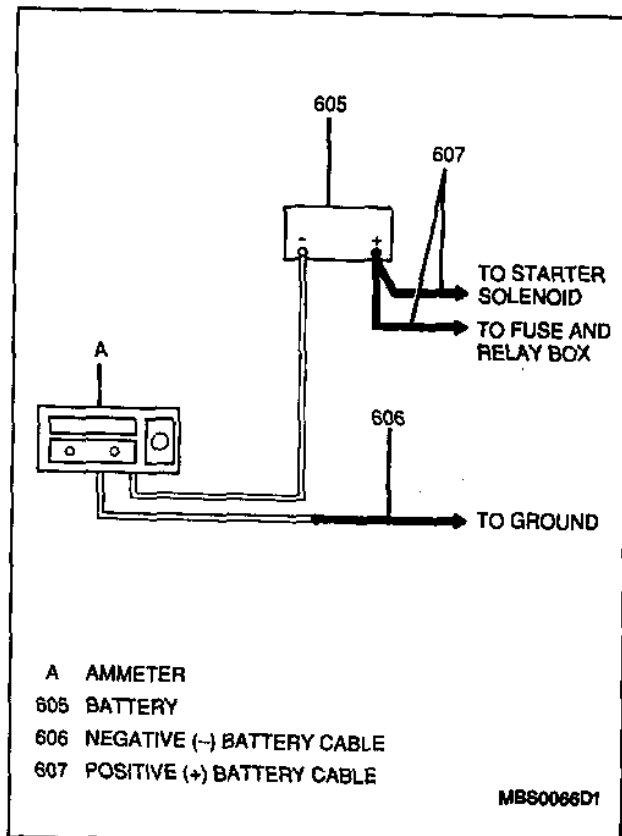

Figure 6—Parasitic Load Test with Ammeter
Figures 6 and 7
4. Connect an ammeter capable of carrying at least 20 amperes in series between the negative (-) battery terminal and the negative (-) battery cable (Figure 6).